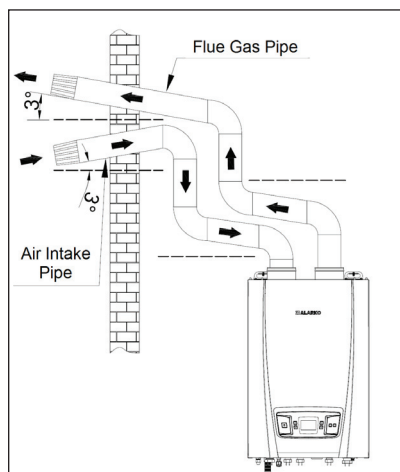
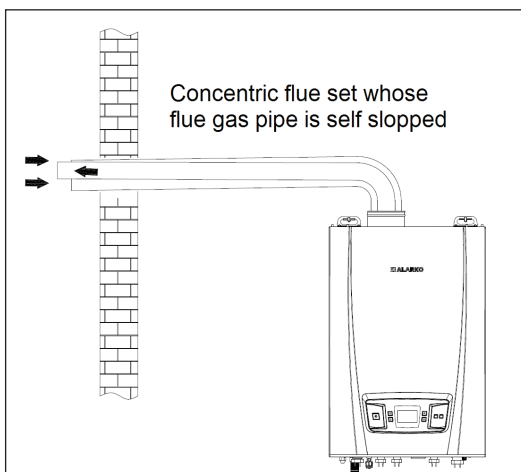

Figure 31. Angles of air intake and flue gas pipes
Figure 32. Concentric flue set angles
- Horizontal air intake pipes must slope downwards by 3° at the wall towards atmosphere to prevent the entry of rain water, dust or impurities to the pipe. For horizontal flue gas pipes, situation is different. Flue gas pipes must slope upwards by 3° to facilitate the flow of condensate water in flue back to combustion chamber, to prevent the stalactite formation by freezing in winter and the risk of drop and hurting to walking people (Figure 31). In case of horizontal concentric flues, flue gas pipe (inner pipe) must slope upwards whereas air intake pipe (outer pipe) must slope downwards. Horizontal concentric flue set must be installed parallel to floor. After installation horizontally, flue gas pipe stands slopped upwards by itself as a result of special design (Figure 32).